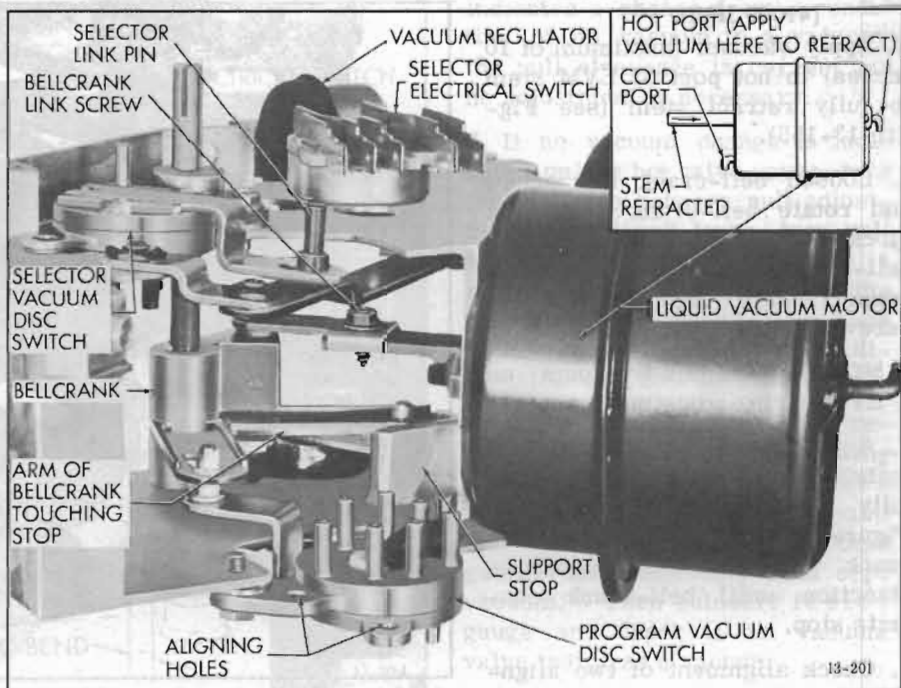

Figure 13-151—Liquid Vacuum Motor with Stem Retraction (45-46-48000 Series)
1. Apply vacuum (maximum of 10 inches) to hot port of LVM to fully retract stem of LVM (see Figure 13-151).
1. Disconnect selector control cable from pin of selector link (see Figures 13-151 and 13-166).